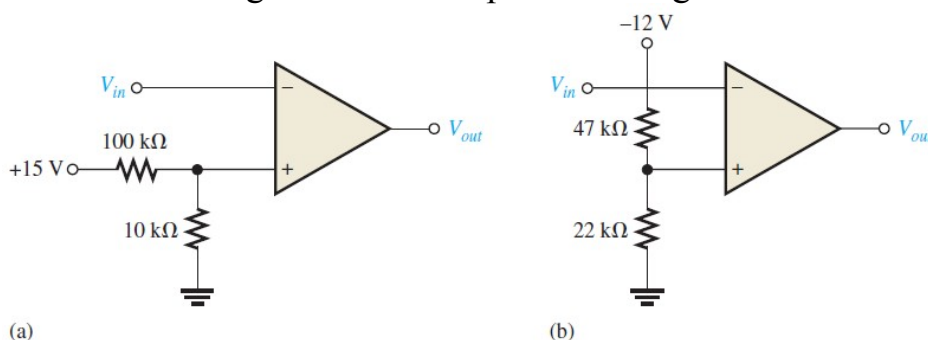

Fig. 23
6. What is the reference voltage for each comparator in Figure 23?